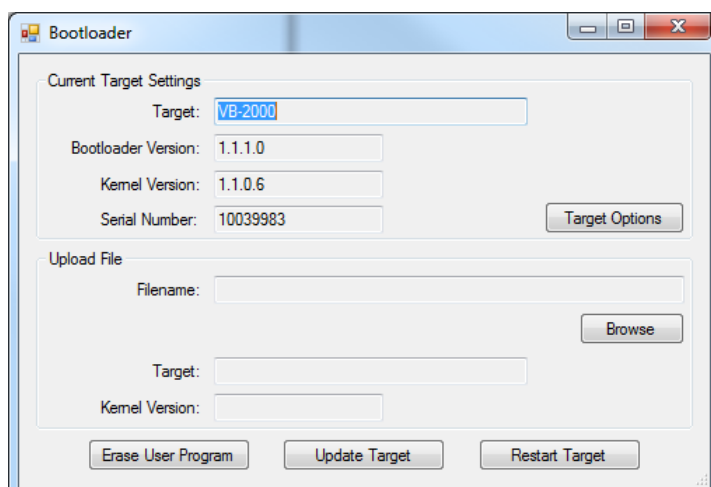

Figure 2-21 - Bootloader
7. Using the menu, click **PROJECT** then **BOOTLOADER**. You may see a window momentarily while EZ LADDER connects to the VB-2XXX controller bootloader. The Bootloader window will open. See Figure 2-21.